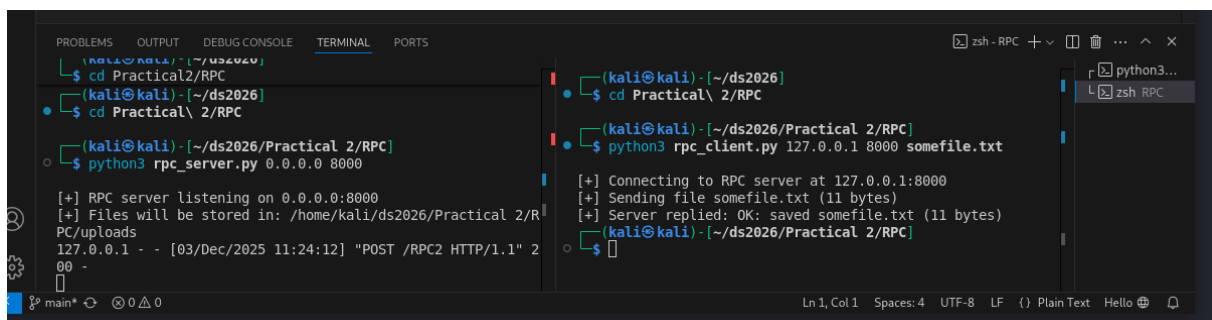

Figure 2: Evidence of successful RPC file transfer (server and client).
- `rpc_evidence.png` – screenshot showing the server and client running successfully (Figure 2).
Figure 2 shows a screenshot of both terminals running successfully.